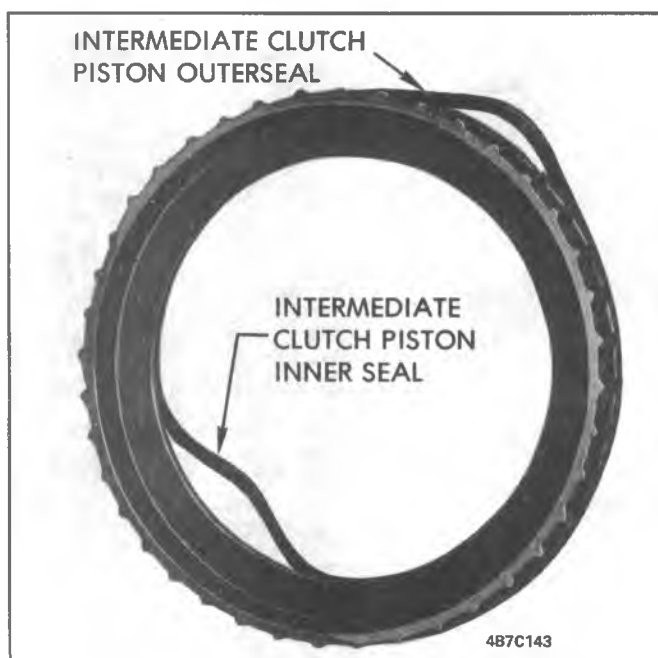

Figure 350C-67 Intermediate Clutch Piston Seals
9. Remove pump body to converter hub lip seal, if necessary. See Figure 350C-72.